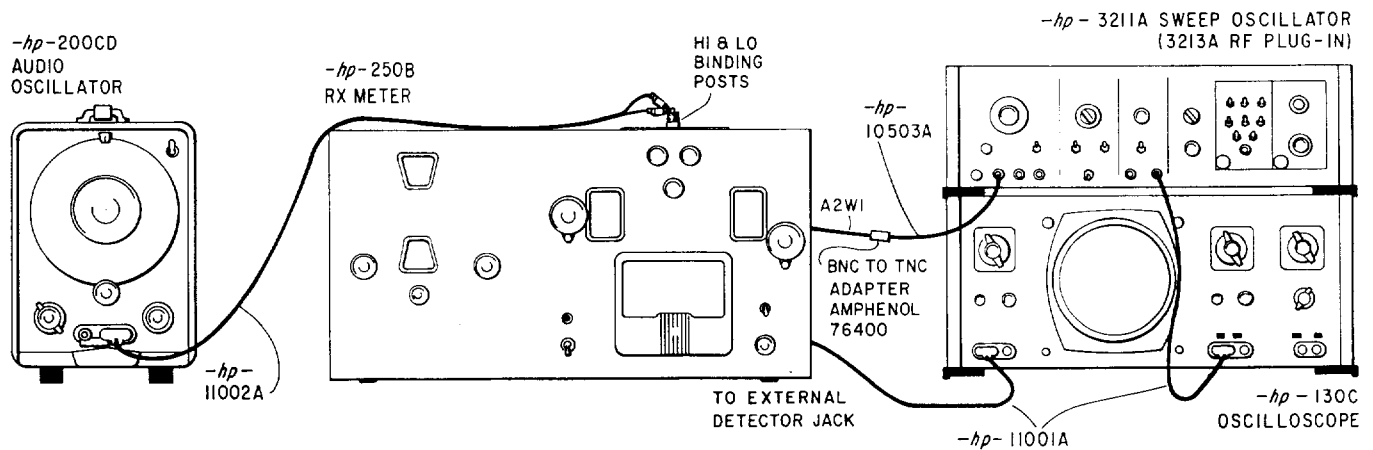

Figure 5-3. Setup for IF Amplifier Alignment
- a. Prepare setup shown in Figure 5-3.